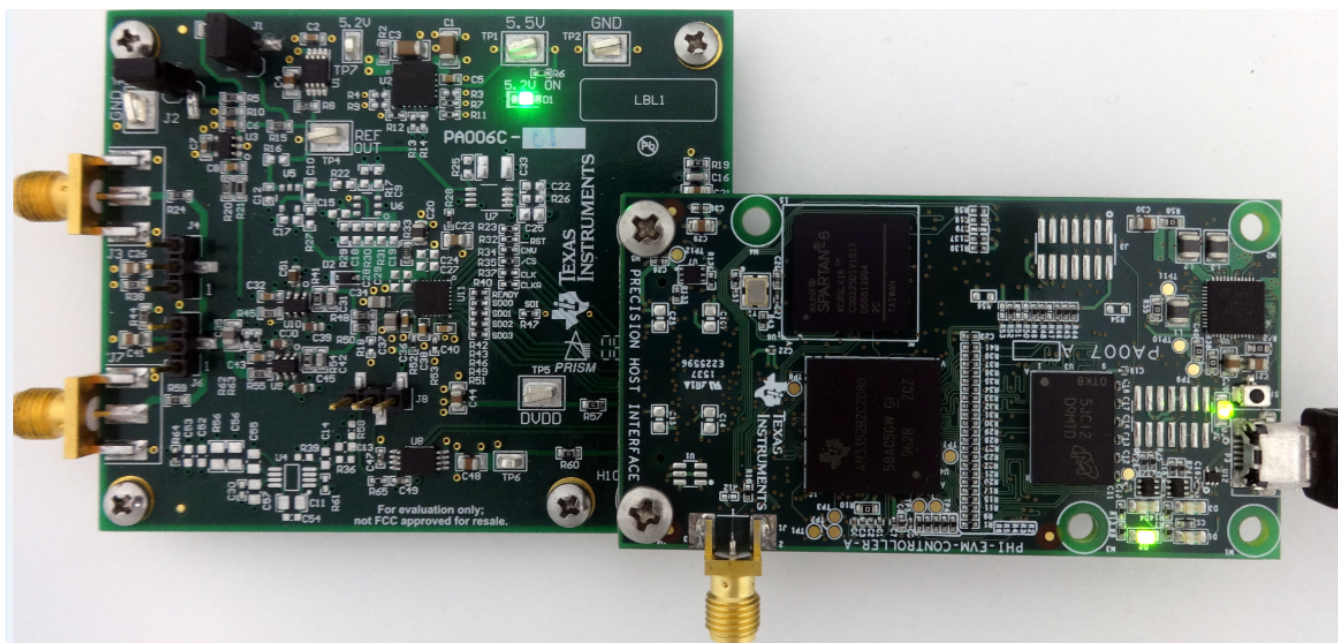

Figure 7. EVM-PDK Hardware Setup and LED Indicators
1. Connect the ADS8910BEVM to the PHI. Install the two screws as indicated in Figure 7.
- LEDs D1 and D2 on the PHI starts blinking to indicate that the PHI is booted up and communicating with the PC. The resulting LED indicators are shown in Figure 7.